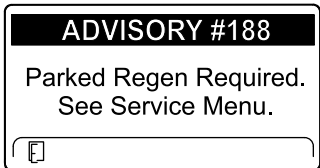

Figure 48
- Parked regeneration required ADVISORY #188 (Figure 48)